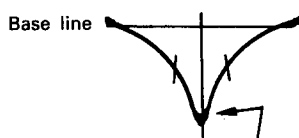

Fig.10
1. Feed in a weak signal from the genescope. Adjust T201, T203 for maximum gain and the waveform of Fig. 10.